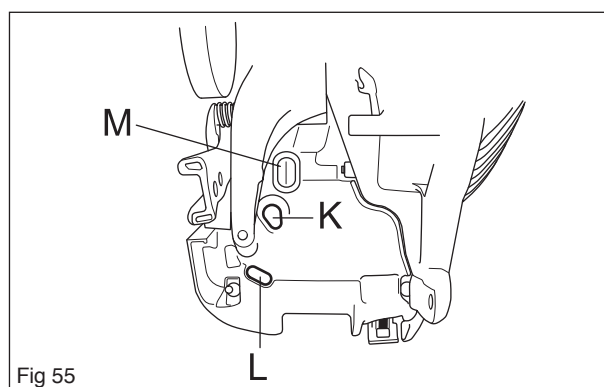

Fig 55
1. Thread the throttle cables in the connection M as outlined in figure 55. NOTE! The figure is shown from underneath.
2. Run the fuel hose D through hole K and hoses B and C in hole L. See figure 55. Pull the hoses so that the collars are on each side of the bottom on the carburettor compartment.